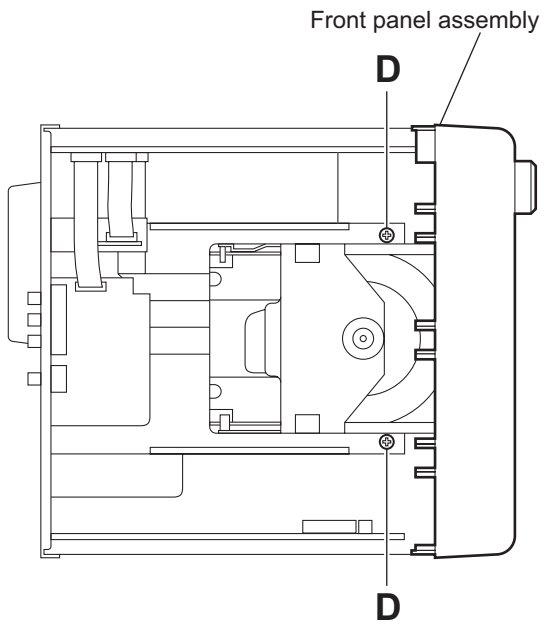

Fig.6
- (8) From the top side of the main body, remove the two screws **D** attaching the front panel assembly to the main body. (See Fig.6.)